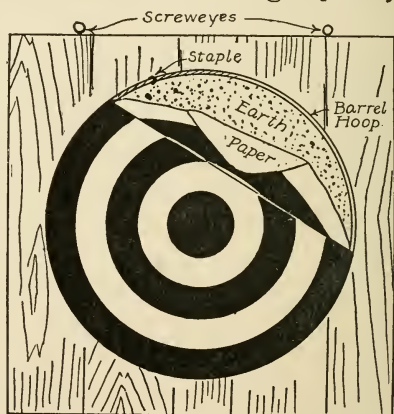

FIG. 239. — A Barrel-hoop Target.
**A Boy's Target** is shown in Fig. 239. It consists of a barrel-hoop, fastened by means of staples to a wooden